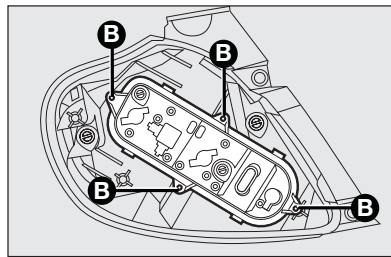

fig. 20
- extract the bulb holder from its seat releasing it from the locking clips **B-fig. 20**;